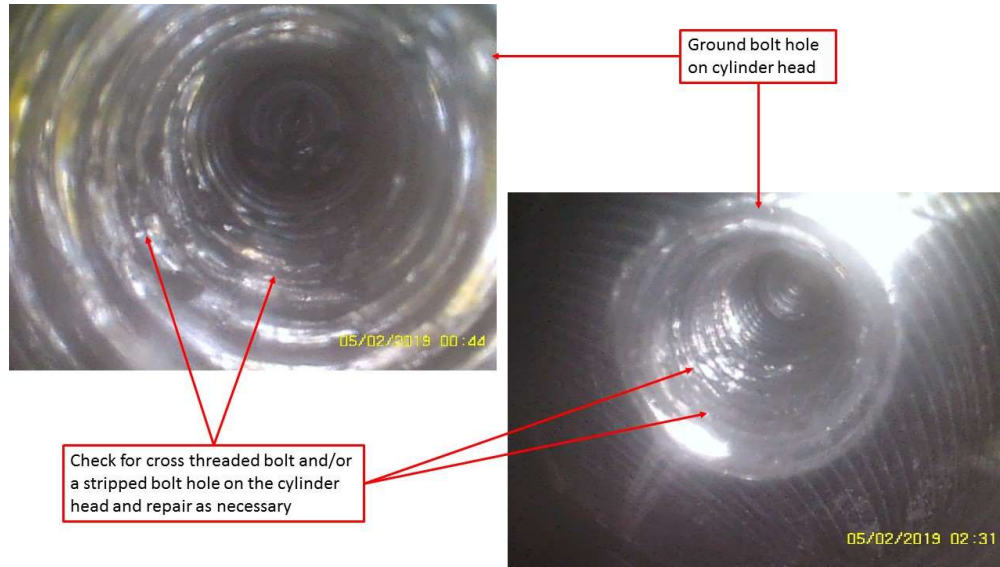

Fig2
- 2- Inspect the ground and capacitor bolt hole threads and repair if needed. See Fig2.